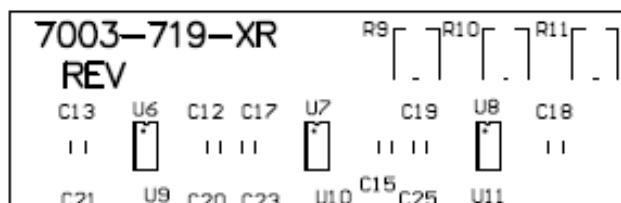

Figure 8-1. AUX Generator PWA Potentiometer, R9
5. Locate potentiometer, R9, at the top edge (towards rear of the unit) of the AUX Generator PWA; refer to Figure 8-1. Potentiometers R10 and R11 are not used for the 1U, 1-Phase models.